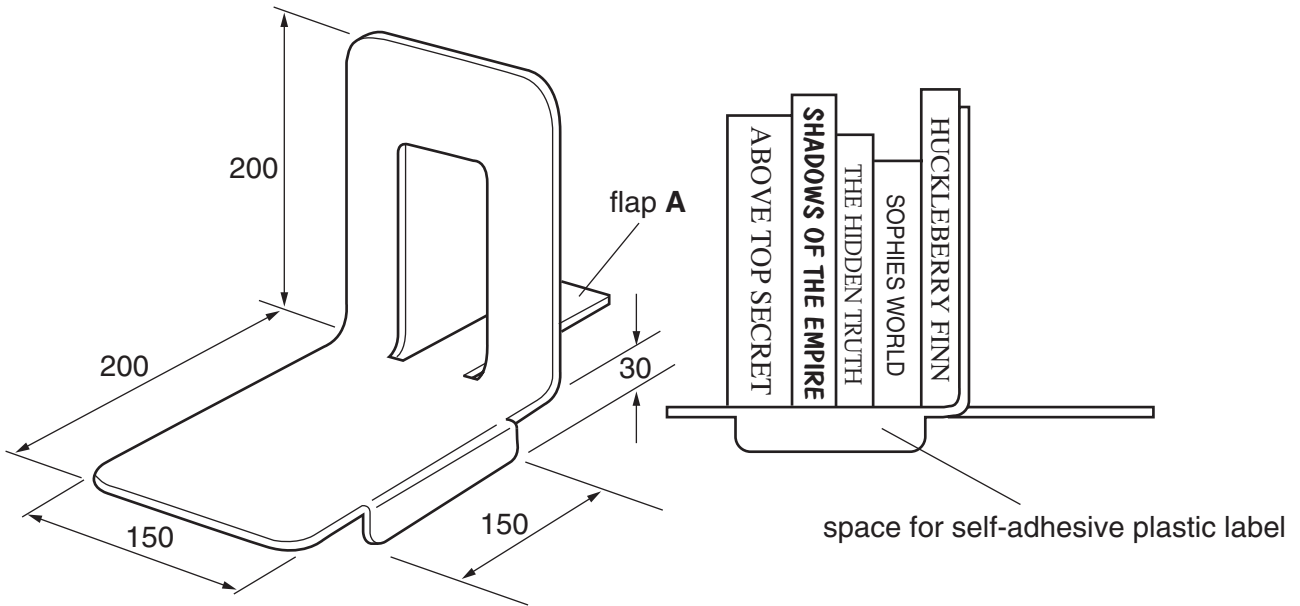

Fig. 1
- 1 Fig. 1 shows a bookend to be used in a school library. The bookend is made from sheet metal 1.6 mm thick.